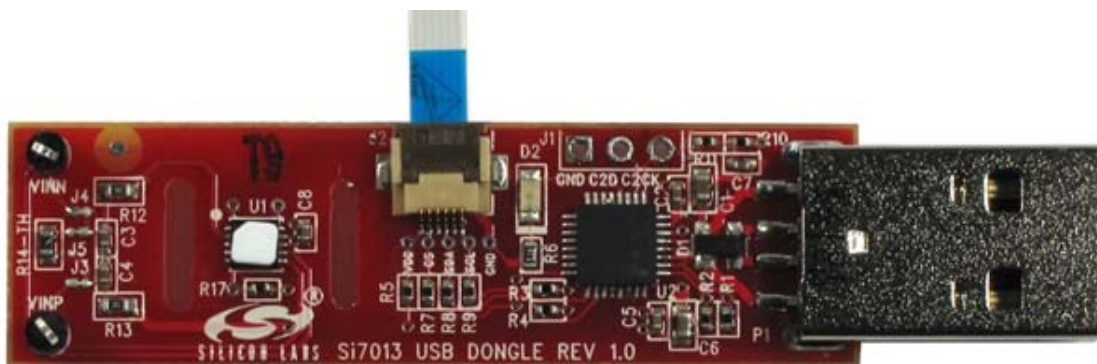

Figure 1. Si7013USB-DONGLE
**Note:** The "postage stamp" boards are used on this connector with the 3-foot flat flexible cable. To use the cable, carefully lift the darker brown piece of the connector and insert the cable with the metal fingers of the cable facing the metal fingers of the connector then close the connector on the cable (see also figures 1 and 2). If a new postage stamp board is inserted into a powered dongle, click the "INIT" button on the GUI.